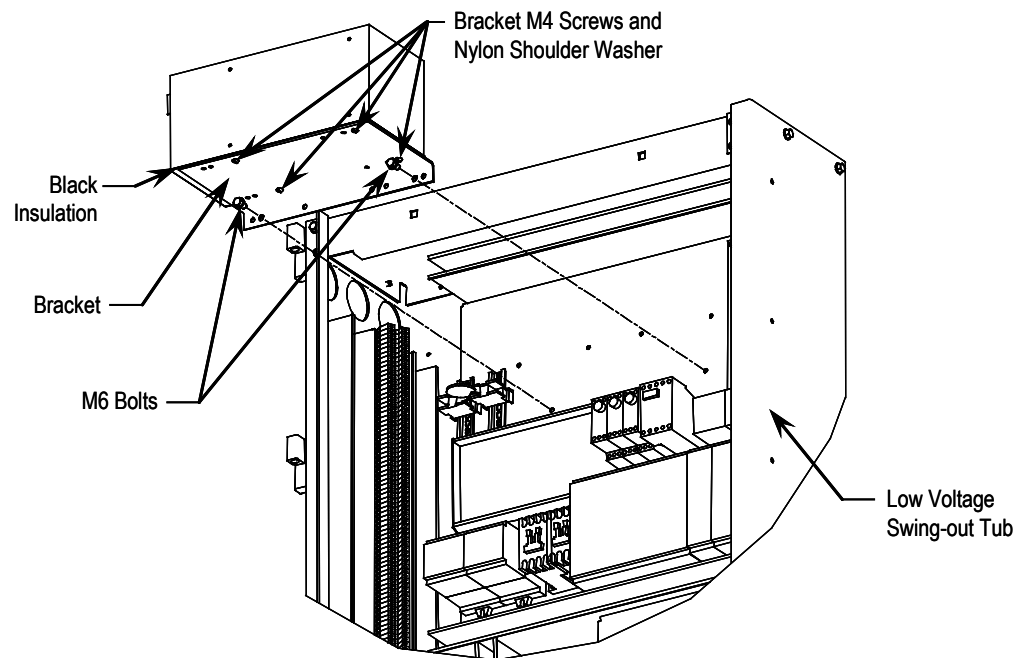

Figure 6.60 – Replacement of AC/DC Power Supply
3. Remove the two M6 bolts per Figure 6.60.
7. Repeat Steps 5, 4, 3, 2 and 1 in this order to replace the unit (see Figure 6.60).